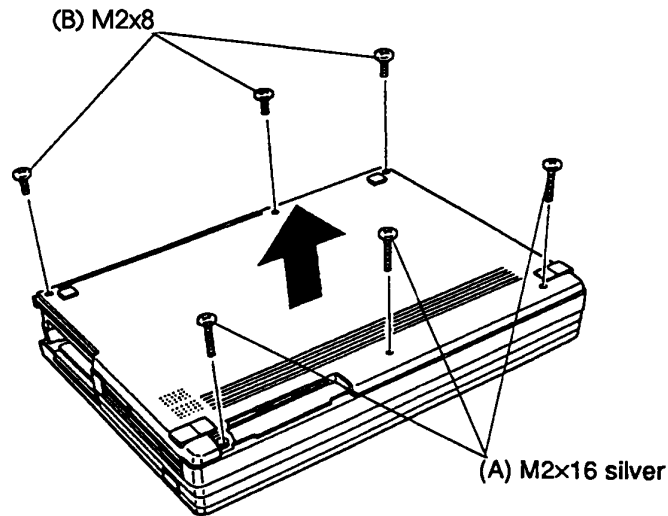

Figure 4-5 Removing the six screws securing the keyboard and top cover
4. Remove the three front (M2x16 silver) screws (A) on the bottom cover. If you are planning to remove the top cover, also remove the three (M2x8) screws (B) (Figure 4-5).
6. Close the display panel and turn the T4400SX upside down. Install either the front three (M2x16 silver) or six (M2x16 silver and M2x8) screws (Figure 4-5).